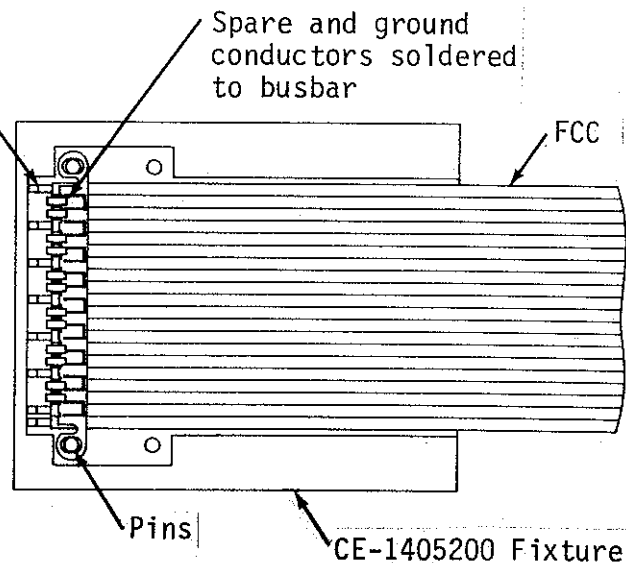

Figure 3C. Use of CE-1405200 Alignment Tool
* Use the CE-1405200 alignment tool to position the busbar and FCC (Figure 3C).